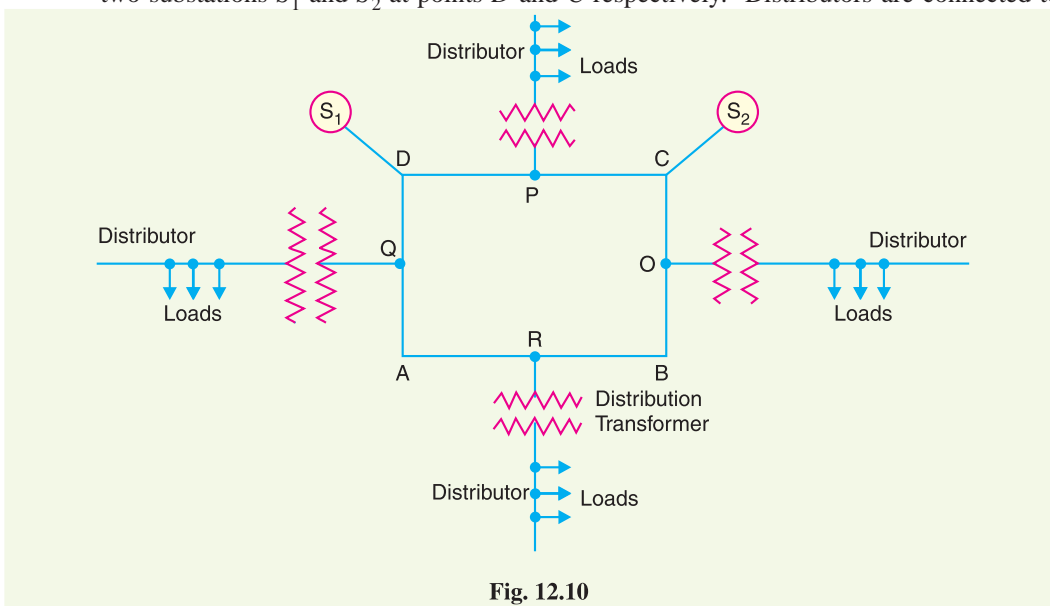

Fig. 12.10
- (iii) **Interconnected system.** When the feeder ring is energised by two or more than two generating stations or substations, it is called inter-connected system. Fig. 12.10 shows the single line diagram of interconnected system where the closed feeder ring *ABCD* is supplied by two substations S_1 and S_2 at points *D* and *C* respectively. Distributors are connected to